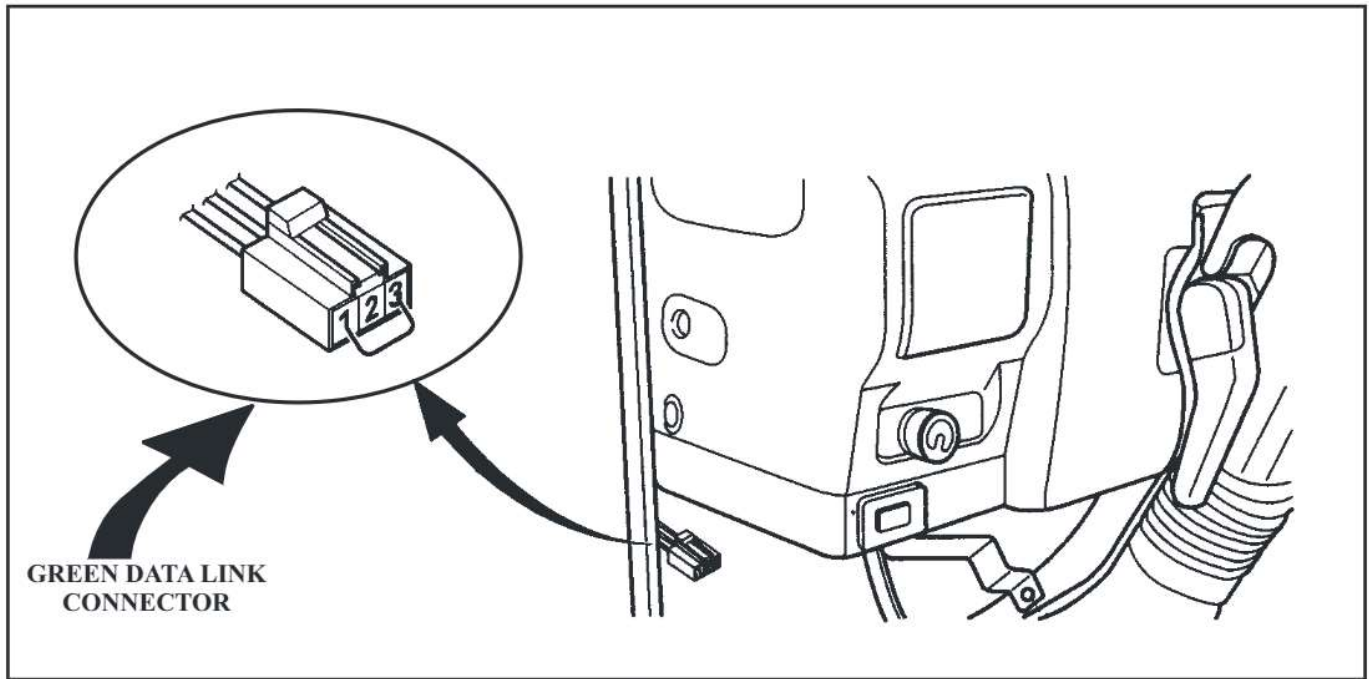

Figure 24
3. Jump pins 1 and 3 of the GREEN TCM Data Link Connector, (Refer to Figure 24).